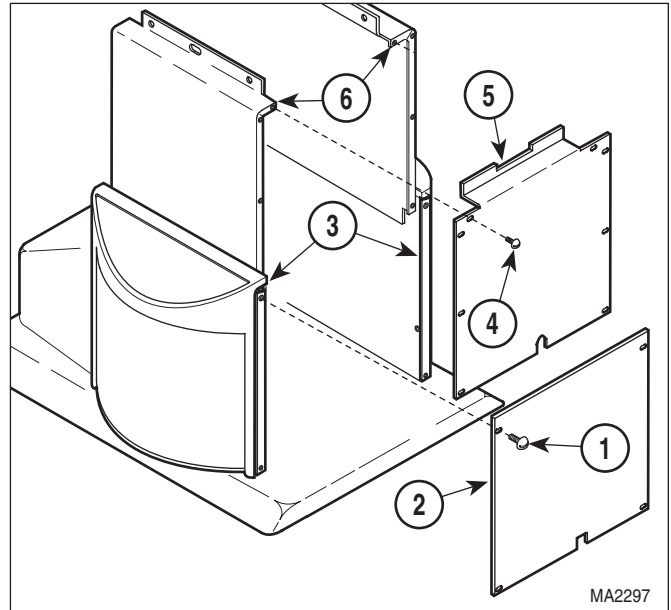
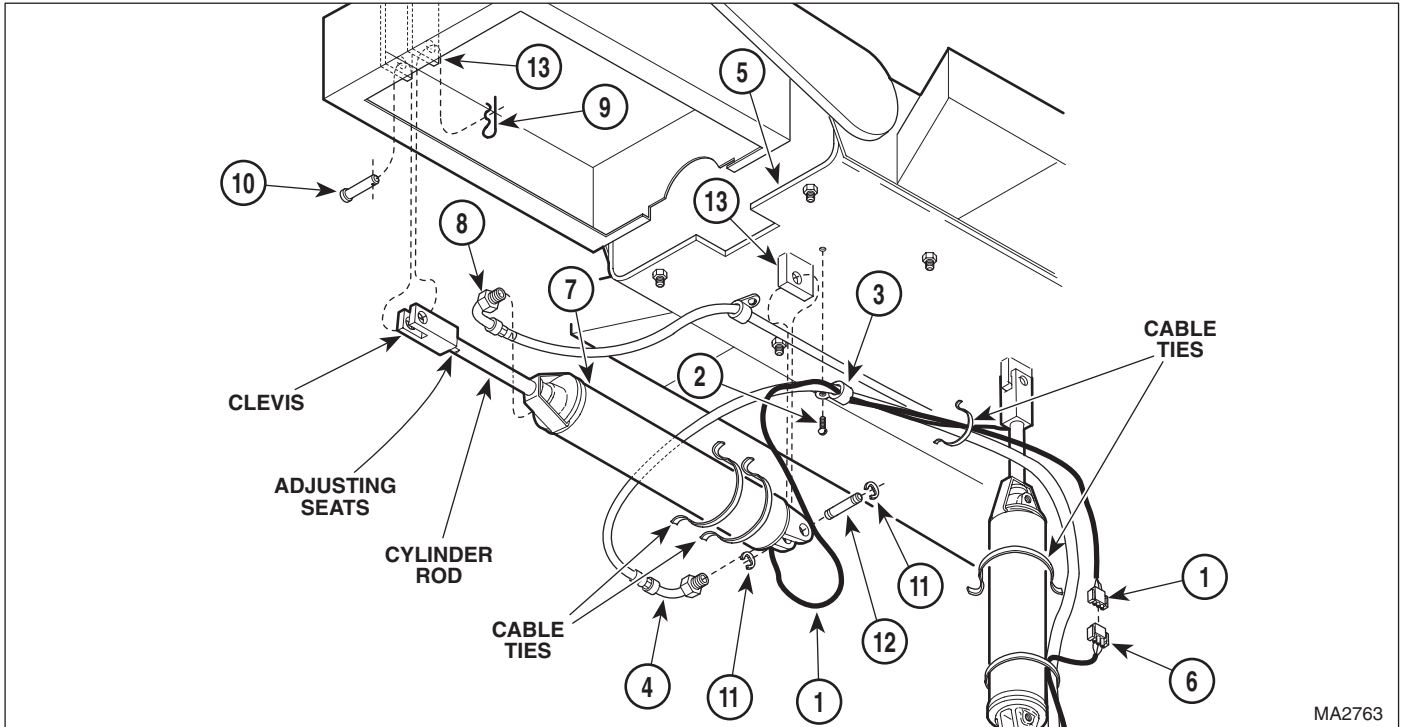

Figure 4-17. Shrouds Removal / Installation
Figure 4-18. Foot Cylinder Removal / Installation
- (1) If possible, raise FOOT UP function all the way up.
- (2) Unplug table power cord from outlet.
- (3) Remove four screws (1, Figure 4-17) and front outer shroud (2) from left and right hand outer shrouds (3).
- (4) Remove eight screws (4) and front inner shroud (5) from left and right hand inner shrouds (6).
- (5) Cut cable ties securing foot cylinder wire harness (1, Figure 4-18).
- (6) Remove screw (2) and wire clip (3) securing foot cylinder wire harness (1) and hose (4) to seat weldment (5).
- (7) Disconnect foot cylinder wire harness (1) from wire harness (6).
- (8) Cut cable ties securing hose assemblies to foot cylinder (7).
- (9) Disconnect hose assembly (4) from foot cylinder (7).
- (10) Disconnect hose assembly (8) from foot cylinder (7).
- (11) Support foot section of table top and then remove hitch pin clip (9), clevis pin (10), two e-rings (11), clevis pin (12), and foot cylinder (7) from brackets (13).
- (1) Install foot cylinder (7, Figure 4-18) on brackets (13) and secure with clevis pin (12), two e-rings (11), clevis pin (10), and hitch pin clip (9).
- (2) Connect hose assembly (8) to foot cylinder (7).
- (3) Connect hose assembly (4) to foot cylinder (7).
- (4) Secure hose assemblies (4 and 8) to foot cylinder (7) and each other with cable ties.
- (5) Connect foot cylinder wire harness (1) to wire harness (6).
- (6) Secure foot cylinder wire harness (1) and hose (4) to seat weldment (5) with wire clip (3) and screw (2).
- (7) Secure foot cylinder wire harness (1) as necessary with cable ties.
- (8) Plug table power cord into outlet.
- (9) Raise FOOT UP function all the way up.
- (10) If foot section *is not* level with seat section when FOOT UP function is completely raised, perform steps 11 thru 13. If foot section *is* level with seat section when FOOT UP function is completely raised, go to step 14.
- (11) Lower FOOT DOWN function until cylinder rod is extended halfway.
- (12) Place a wrench on adjusting seats of cylinder rod and use it to rotate cylinder rod to adjust clevis up or down as necessary.
- (13) Repeat steps 9 thru 13 until foot section is level with seat section when FOOT UP function is completely raised.
- (14) Install any cable ties removed during removal.
- (15) Install front inner shroud (5, Figure 4-17) on left and right hand inner shrouds (6) and secure with eight screws (4).
- (16) Install front outer shroud (2) on left and right hand outer shrouds (3) and secure with four screws (1).
- (17) If necessary, add oil to motor pump (Refer to para 4.3).
- (18) Plug table power cord into outlet.